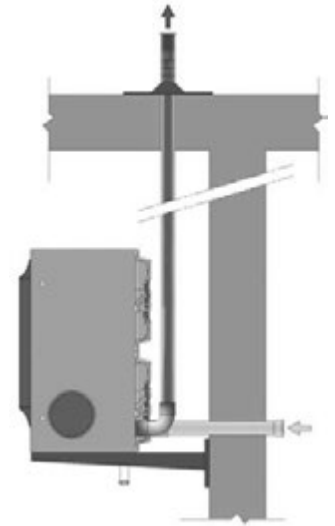

Fig. 21
- installation type B23: this type includes the combustion air intake in the environment and exhaust of the fumes on the outside wall through a specific horizontal duct (see Fig. 23 e 24) or on the roof through a special duct vertical (see figures 25 and 26). installation type C53: the discharge of products of combustion and the intake of combustion air they take place through separate conduits that flow outside the building and distant from each other. This type allows to realize, to example, the air intake in the wall behind the appliance and the fume exhaust far away from the appliance or to the roof (see Fig. 21 e 22). In this way the appliance is watertight to the room in which it is installed.